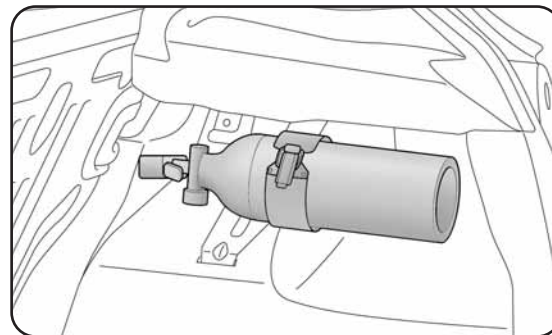

fig. 52
**FIRE EXTINGUISHER (for versions/markets where provided) fig. 52**